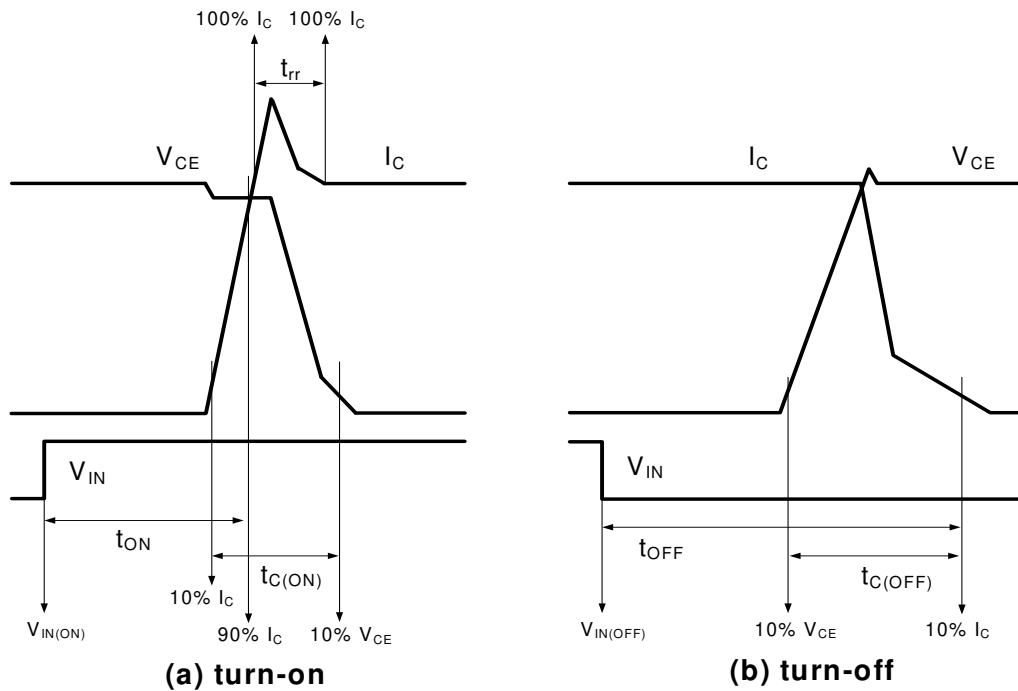

Figure 4. Switching Time Definition
7. t_{ON} and t_{OFF} include the propagation delay of the internal drive IC. t_{C(ON)} and t_{C(OFF)} are the switching time of IGBT itself under the given gate driving condition internally. For the detailed information, please see Figure 4.